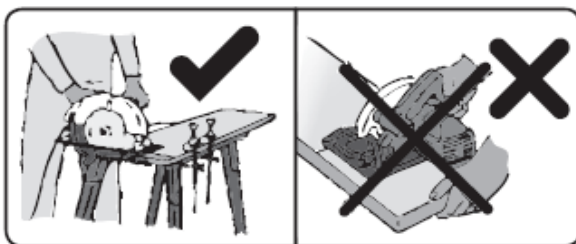

Fig. 5
1. Fix the material to be cut with a suitable clamping device, e.g. clamping clamps to the work surface before cutting (Fig. 5).